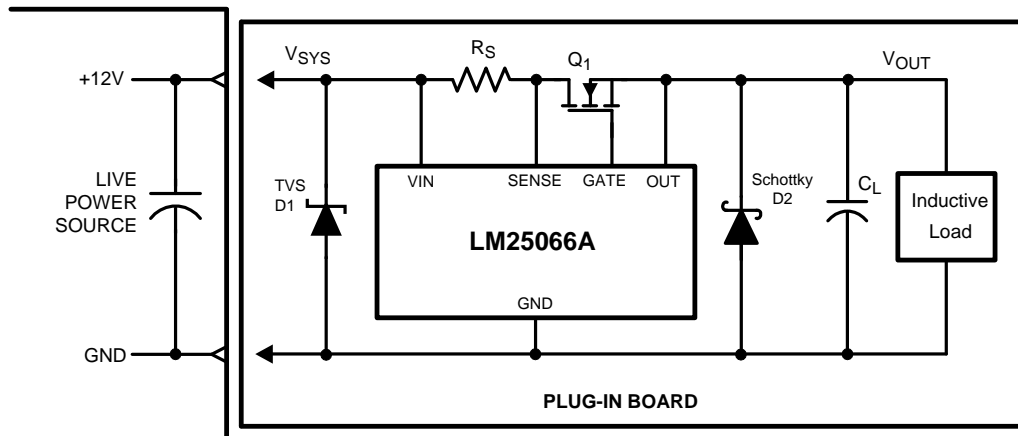

Figure 47. Output Diode Required for Inductive Loads
A) Continued proper operation of the LM25066A hot swap circuit normally dictates that capacitance be present on the supply side of the connector into which the hot swap circuit is plugged in, as depicted in Figure 47. The capacitor in the “LIVE POWER SOURCE” section is necessary to absorb the voltage transient generated whenever the hot swap circuit shuts off the load current. If the capacitance is not present, parasitic inductance of the supply lines will generate a voltage transient at shut-off which may exceed the absolute maximum rating of the LM25066A, resulting in its destruction. A TVS device with appropriate voltage and power ratings can also be connected from VIN to GND to clamp the voltage spike (see application note AN-2100 SNVA464).
B) If the load powered by the LM25066A hot swap circuit has inductive characteristics, a Schottky diode is required across the LM25066A’s output along with some load capacitance. The capacitance and the diode are necessary to limit the negative excursion at the OUT pin when the load current is shut off. If the OUT pin transitions more than 0.3V negative, the LM25066A will internally reset, erasing the volatile setting for retries and warning thresholds. See Figure 47. Also, rapid slew rates on VOUT can couple into the LM25066A’s GATE pin and create negative voltage excursions at this pin. To alleviate this, a small gate resistance (e.g. 10Ω) can be used. This resistor has the added benefit of reducing very high frequency gate voltage oscillations, particularly in paralleled FET arrangements.